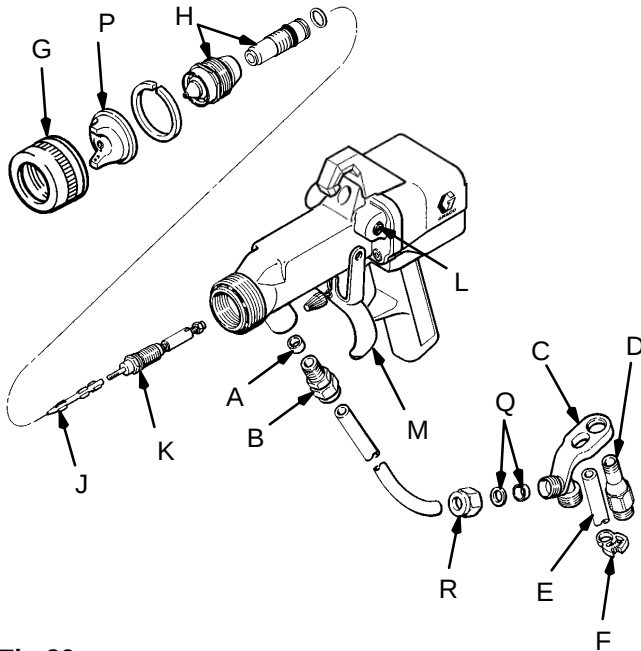

Fig 30
1. Remove the fluid tube fitting (B) and fluid seal (A) from the gun. See Fig 30.
2. Remove the air fitting (D), exhaust tube clamp (F), and the exhaust tube (E). *Keep these parts and the nut (R) and ferrules (Q) for reassembly.*
3. Remove the gun fitting bracket (C) with the hose assembly.
4. Remove the retaining nut (G).